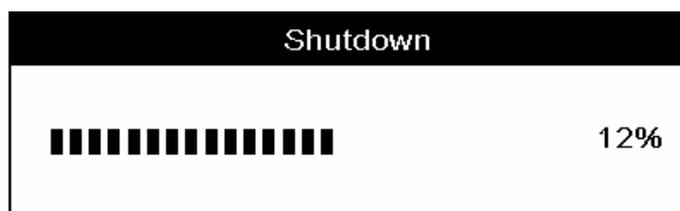

Figure 6-22 Shutdown progress bar
4. Present the E-Z cleanser to the sample probe and press the aspirate key. The analyzer will aspirate the E-Z cleanser and automatically clean the fluidic lines and the baths. The cleaning progress will be displayed on the screen, as Figure 6-22 shows;